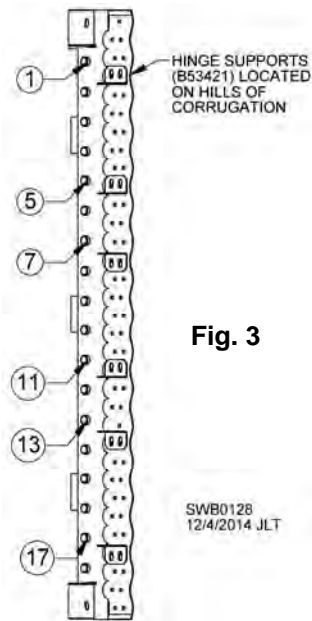

Fig. 3
7. Loosely bolt hinge support pieces (B53421) to bin wall and door frame as shown in Fig. 3. Hinge support pieces are shown in relation to door pegs.